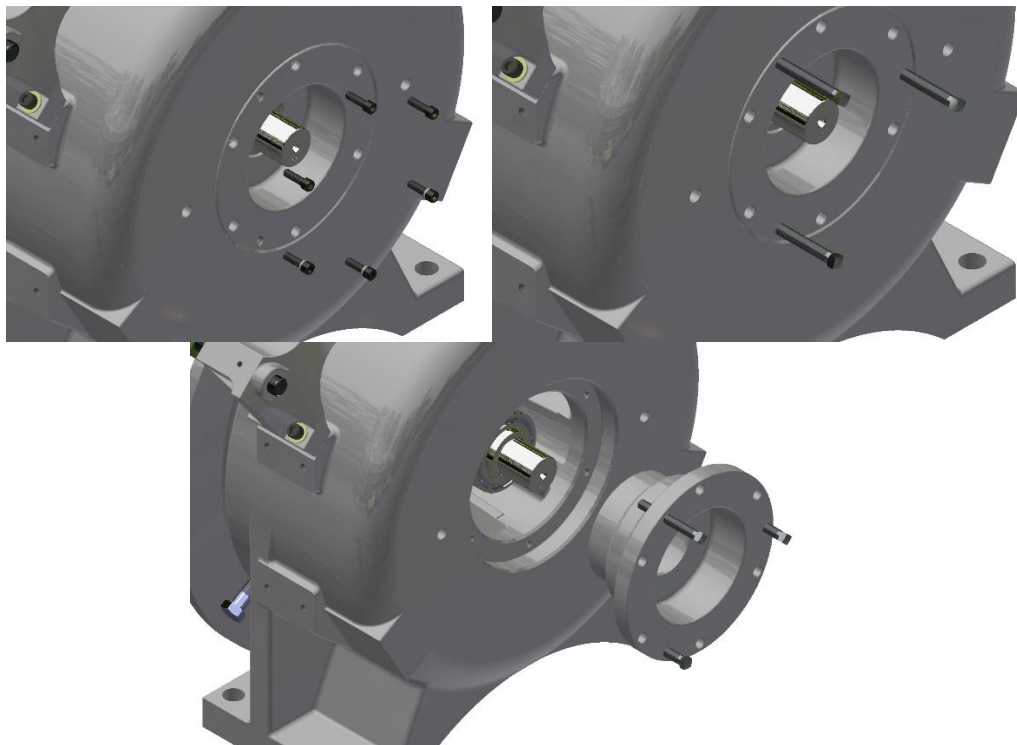

Figure 3: Bearing Housing Removal
- Bearing housing removal (See Figure 3)